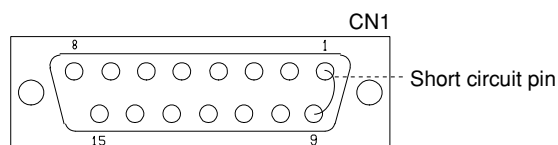

Fig.16
When the Emergency Stop Signal system is to be connected to a machine's interlock safety system remove the shorting pin shown in Fig 16 and connect this line to the interlock safety switch.
(6) External Input/Output Connector CN1 Pin Arrangement (Fig.16)